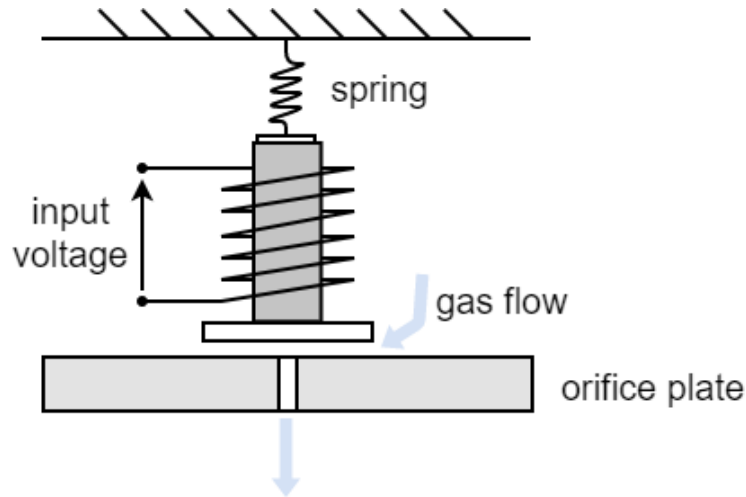

Figure Q2
2. A pneumatic valve within an accurate pressure regulation system is controlled by an electromagnetic arrangement where the electromotive force holds the valve open against a compressed spring to allow gas flow through the orifice, as shown in Figure Q2